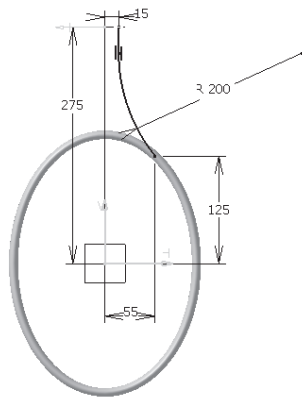

Figure 10-65 The sketch of the guide curve for creating the second sweep feature
- Create the second swept surface, refer to Figures 10-65 through 10-67.
2. Draw the guide curve, as shown in Figure 10-65.